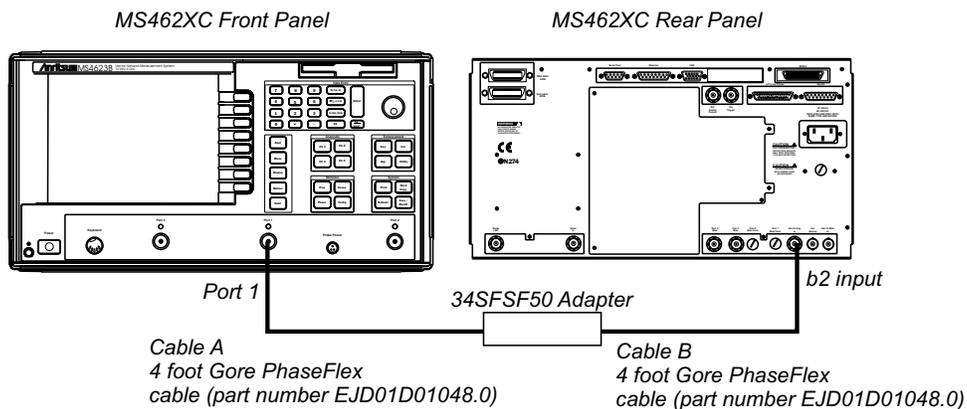

Figure 4-3. Coupler Check Test Setup
Step 2. Connect the MS462XC as shown in Figure 4-3.